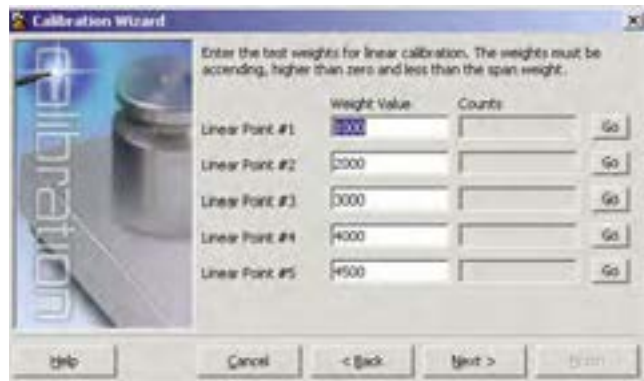

Figure 4-9. iRev 4 Linear Calibration Display
- If performing a multi-point linear calibration, up to five other calibration weight values can be entered on the display shown in Figure 4-9. The weights must be in ascending order and must not include zero or the span weight. Enter the weight values and click the *Go* button to calibrate each point.